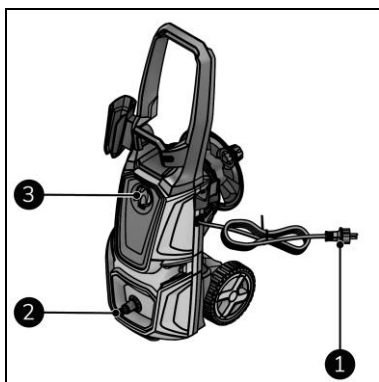

Figure 11
2. Make sure the ON(I)/OFF(0) switch (Figure 11, pos. 3) is in the OFF(0) position.
3. Place the power plug (Figure 11, pos. 1) into a socket that is easily accessible.
4. Connect the water supply to the device (Figure 11, pos. 2).